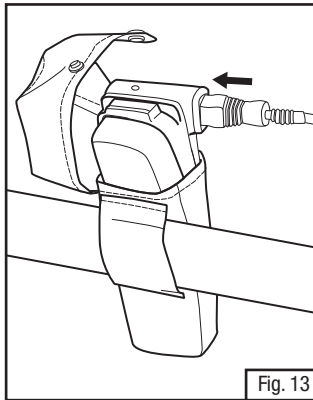

Fig. 13
6. Connect the Breathe Easy™ Power Cord to the adapter (Fig. 13). Power the motor blower on by holding the power button on the adapter down for 1/2 second. When powered on, the indicator light on the TR-659 should blink for approximately one second and then turn off.